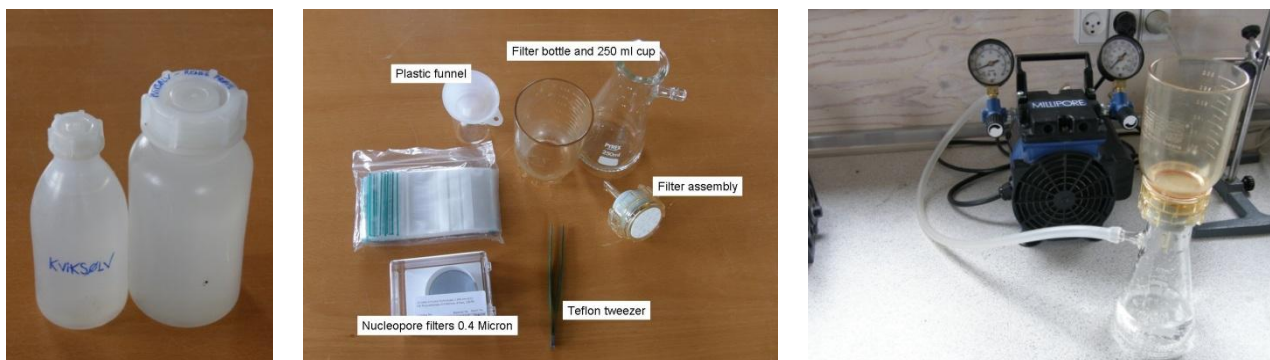

Fig 8.3 Collection bottles (left) Equipment to be used for filtering (middle). Filtering (right)
1. Bring two pre-rinsed plastic bottles (1x 250 ml and 1x 500 ml) to the river (see Fig 8.3). Use the same bottles every time. Collect the samples when you collect all the other water samples in the morning (section 7.3.1)
Equipment for filtering (see Fig 8.3)